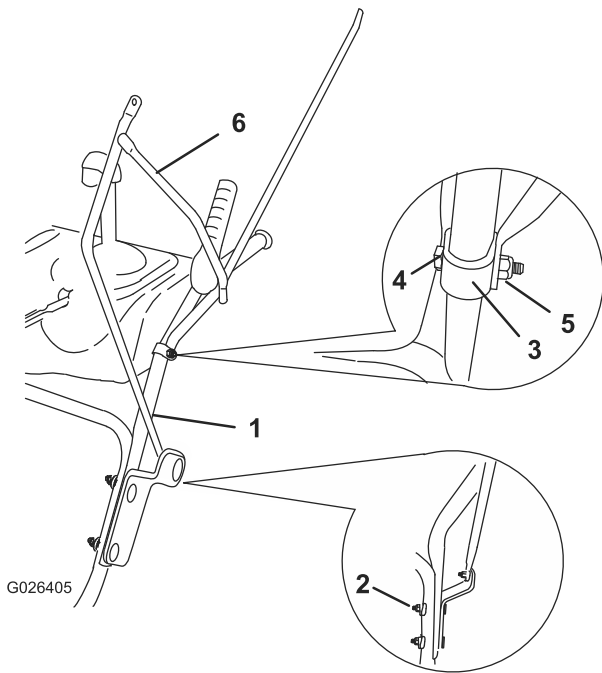

Figure 2
3. **For installation on Compact Two-Stage Snowthrowers only:** Install the left and right spacing bracket, then install the lower front end of the left and right mounting brackets onto the handle assembly using the upper handle mounting nuts you removed in 1 (Figure 2).